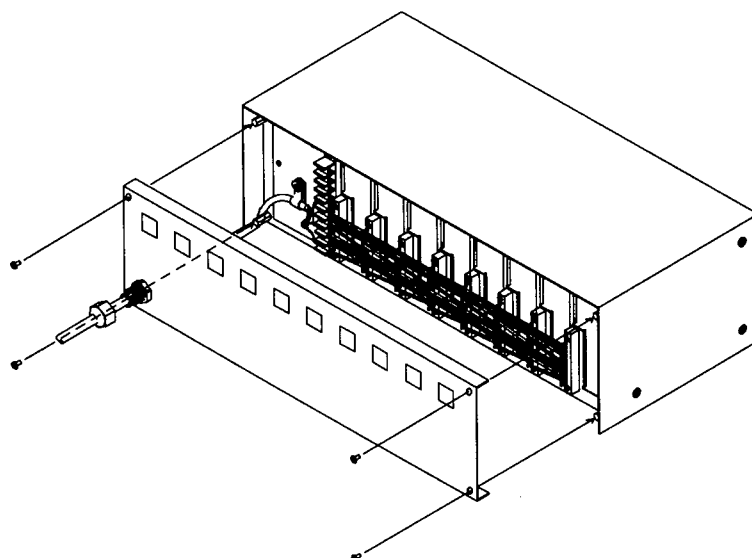

Fig.6
9. Pulling the power cable, attach the connector cover to the V-1000B's chassis. (Figure 6)